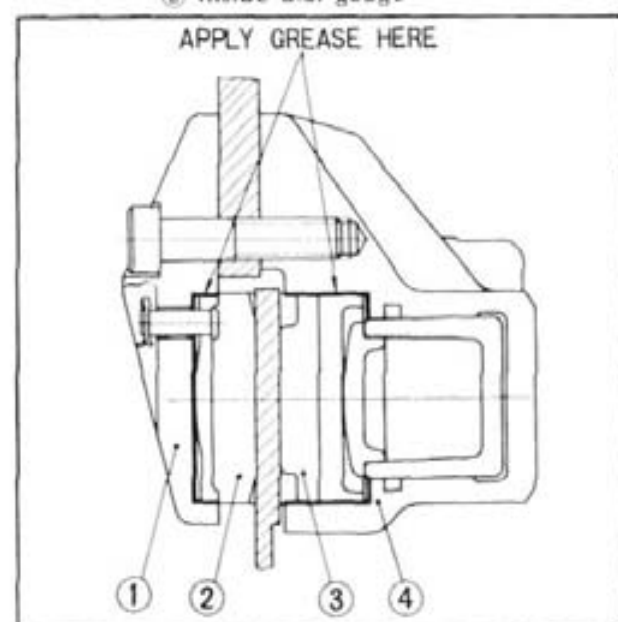

Fig. 14-12 ① Caliper B ③ Pad A
1. Before mounting the pads A and B, apply a small amount of the specified grease (0.3~0.5 g) evenly on the caliper as shown in Fig. 14-12. When mounting the pads, take care not to smear the braking surface of the pad with grease. The applied grease serves to prevent dust and water from entering the pad sliding surface, as well to lubricate the sliding surface in order to ensure the smooth operation of the pads.